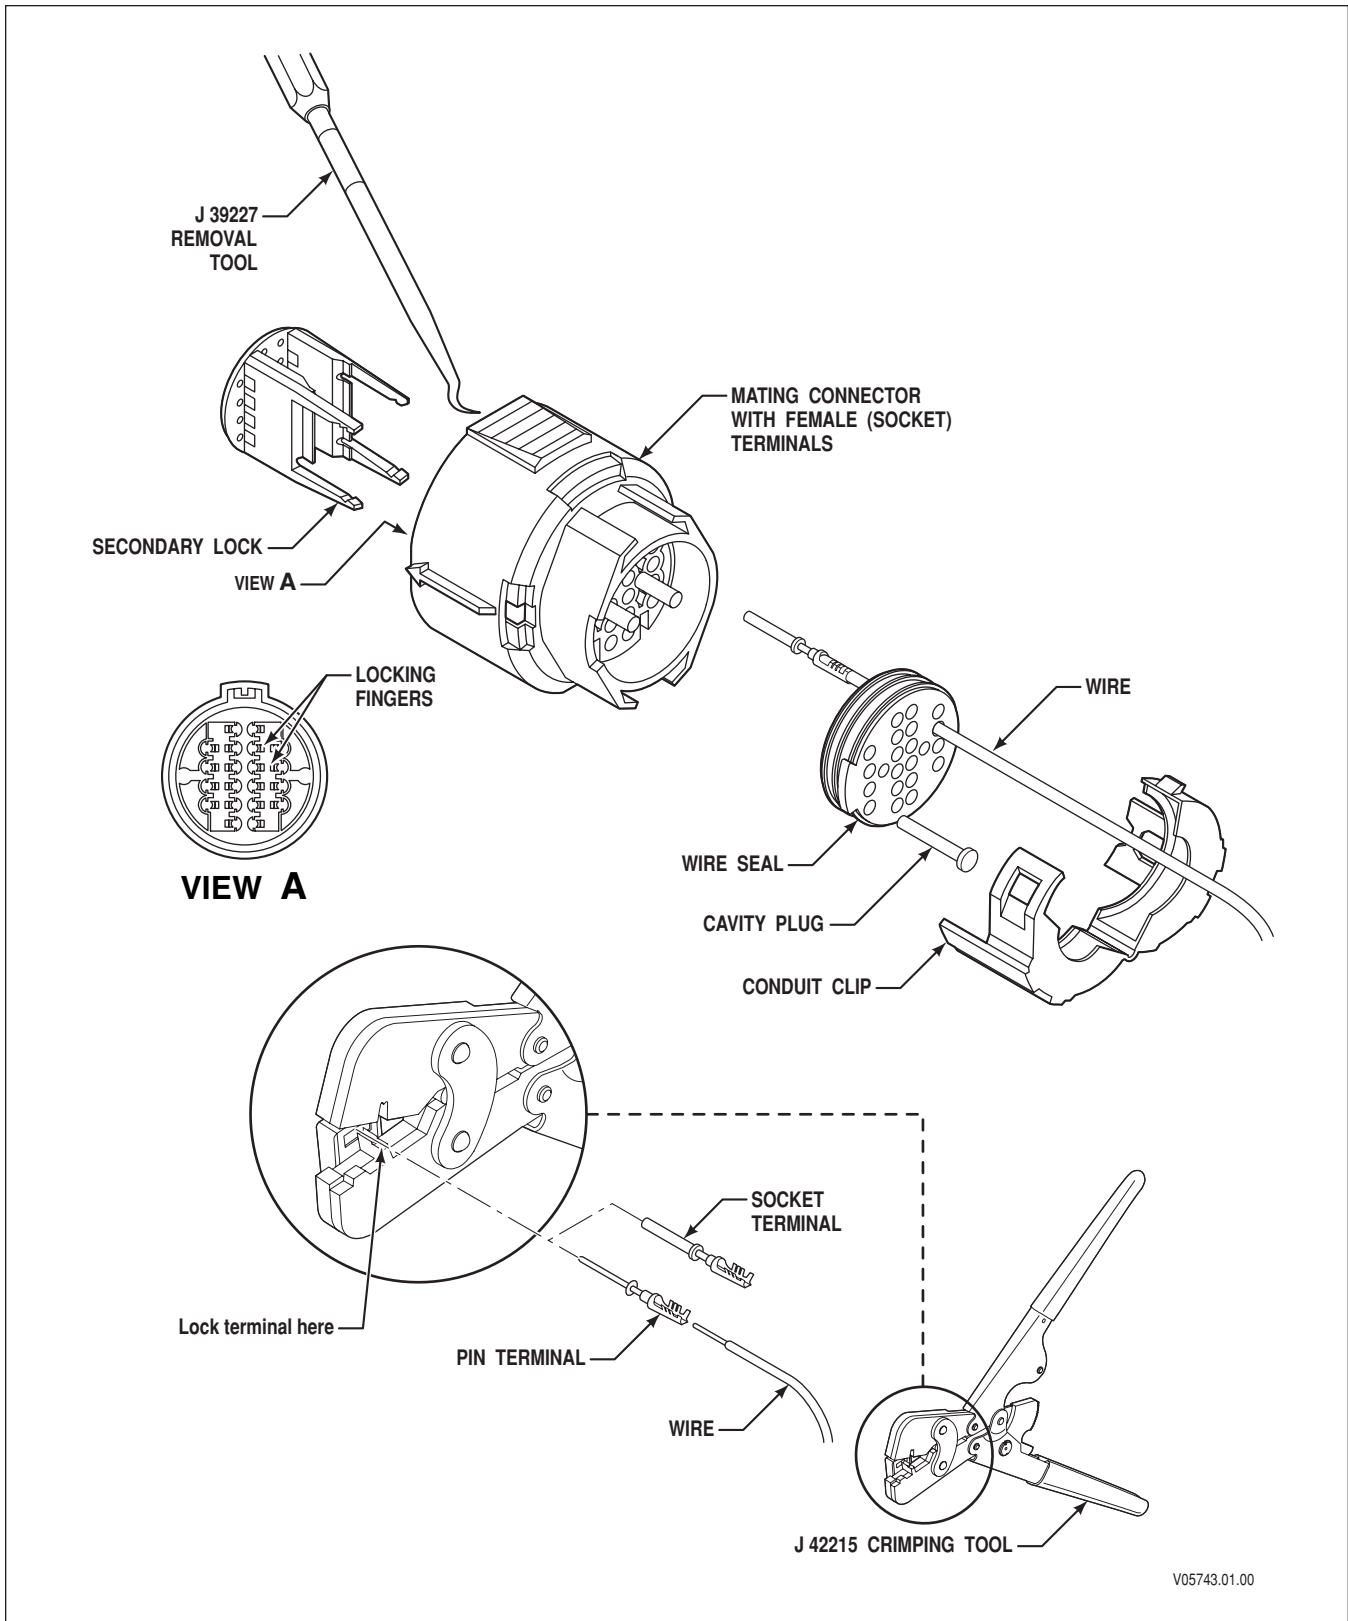

Figure E-4. Delphi-Packard Micro Pack 100W Connector (Main Transmission Connector)
A. Connector/Terminal Repairs (refer to Figure E-4)
B. Terminal Removal—Main Transmission Connectors (refer to Figure E-4)